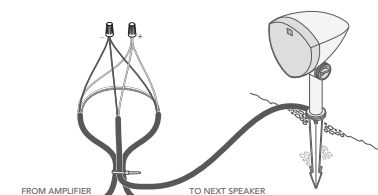

Figure 5
- Cut the correct two wires for the left or right speaker (see the tables below) and strip 3/4" of insulation on the exposed ends of the burial wires, then strip 3/4" insulation from the ends of the corresponding speaker's pigtail (see Figure 5).
- Create a loop of approximately 10", and use a wire tie to hold the wire loop and speaker pigtail in place to provide strain relief (see Figure 5).